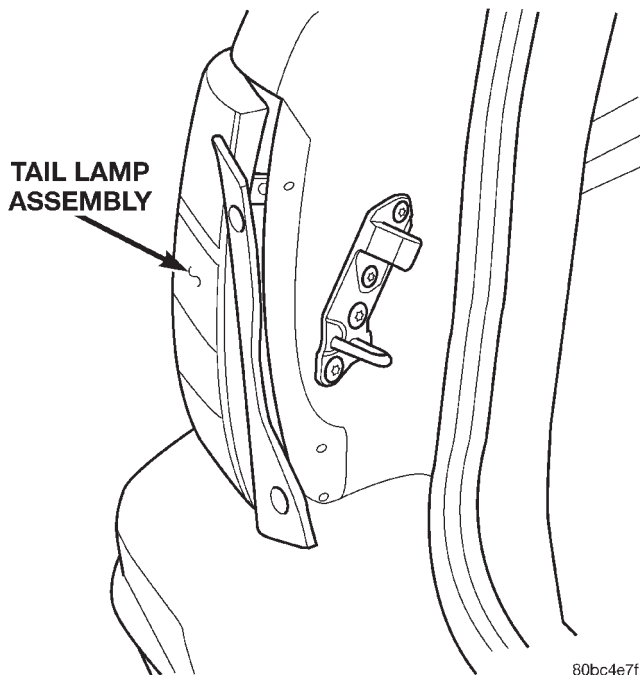

Fig. 12 Tail Lamp Trim Panel
(2) Position tail lamp trim panel as shown (Fig. 12).